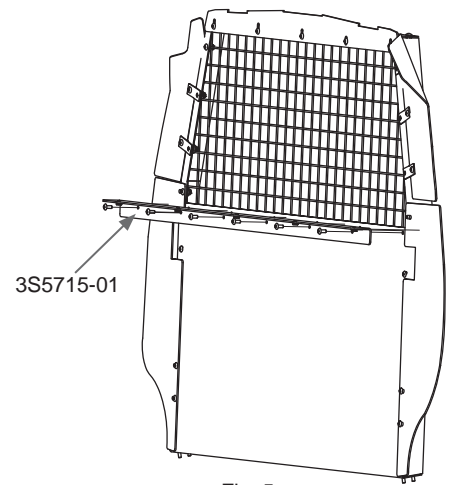

Fig. 5
A. Install seat support bracket 3S5715-01 onto the barrier using the 3X03 bolts and 3X16 nuts already installed on the barrier. Tighten all fasteners. (Fig. 5)